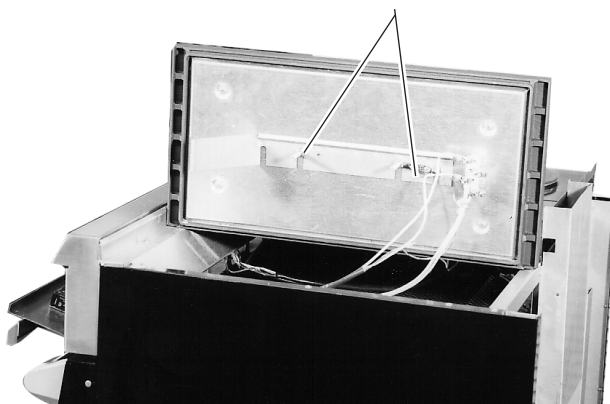

Fig. 29
4. Flip the hot top plate assembly over. (Fig. 29)
5. Remove (2) 12mm nuts holding the mounting bracket to the plate assembly. (Fig. 29)